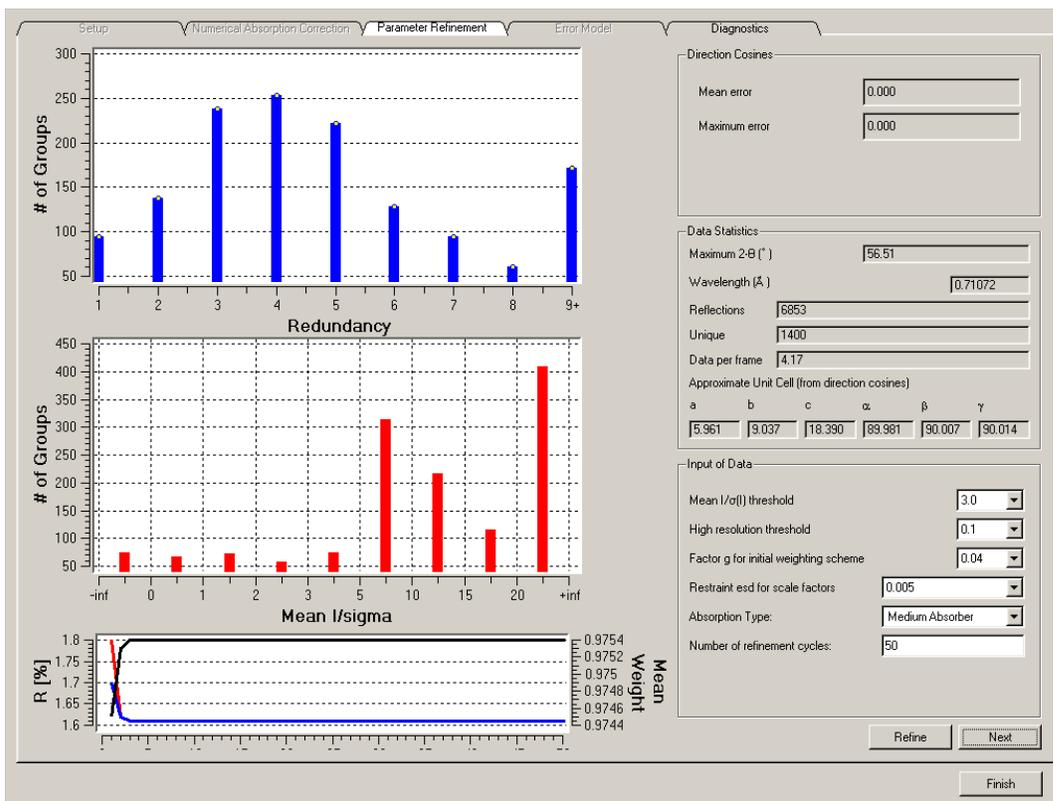

Figure 7.21 – Scale window after refinement
1. Click **Refine**. Figure 7.21 shows a typical refinement result. The R-values are reduced and the Mean Weight increases. Typical final values are 3–4% for the R-values and 0.95–0.98 for the Mean Weight.